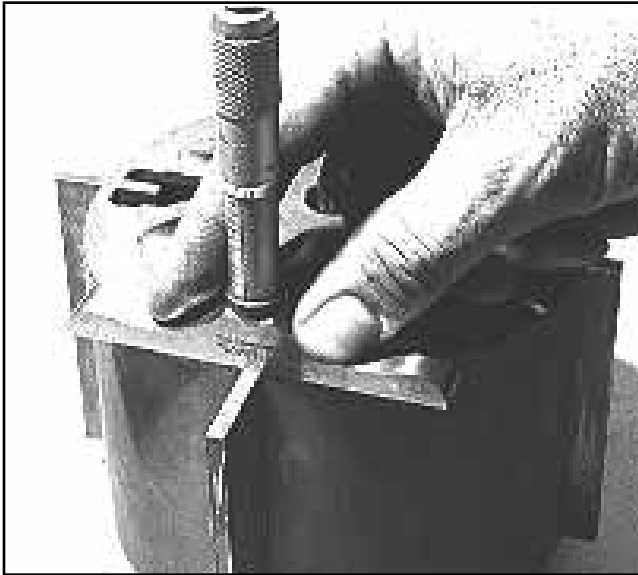

Figure 51
1. Place depth micrometer on the rotor over the blade end as shown in Figure 51 and check findings against Clearance Guide on Page 12.